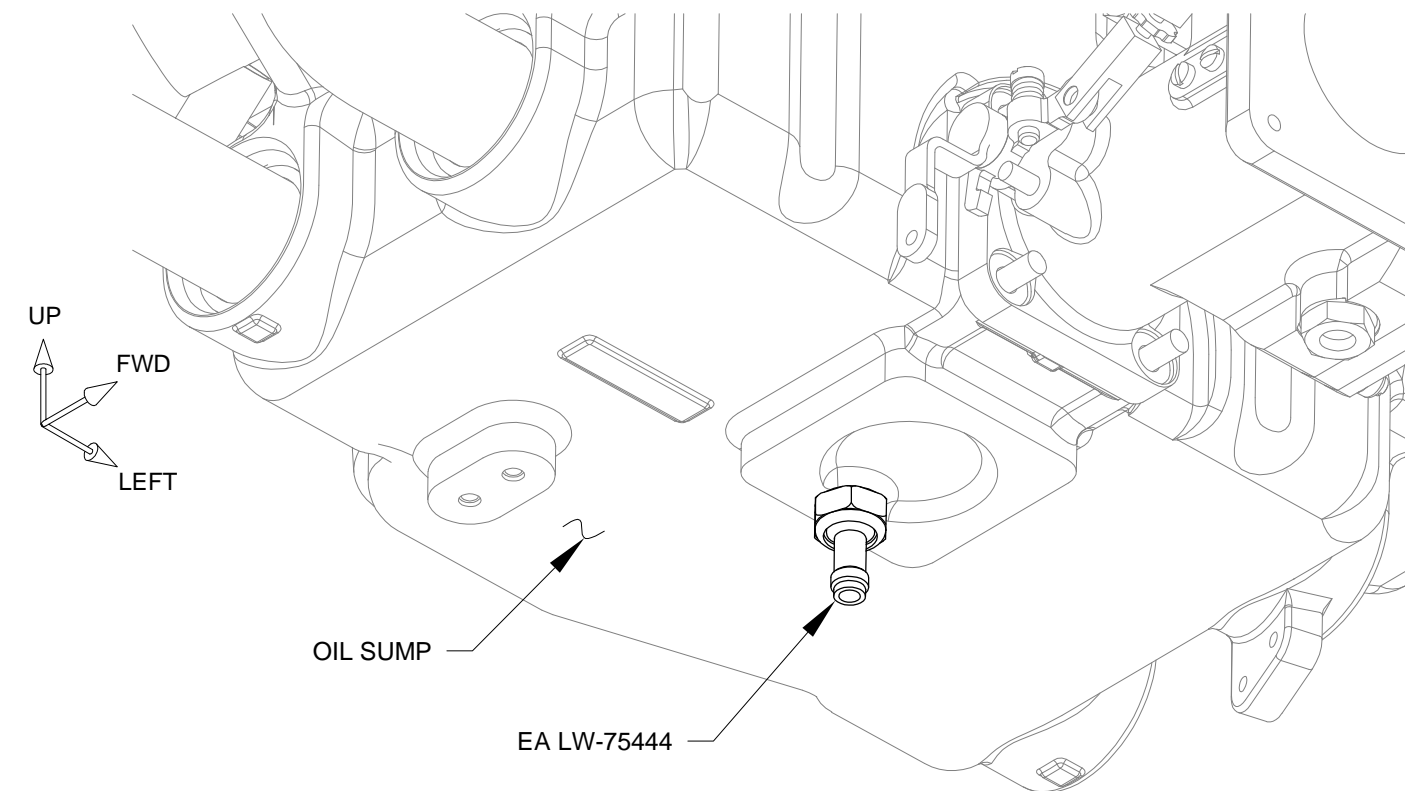

FIGURE 4: SNIFFLE VALVE INSTALLATION
Step 4: Install the EA LW-75444 Sniffle Valve to the bottom of the oil sump where shown in Figure 4.